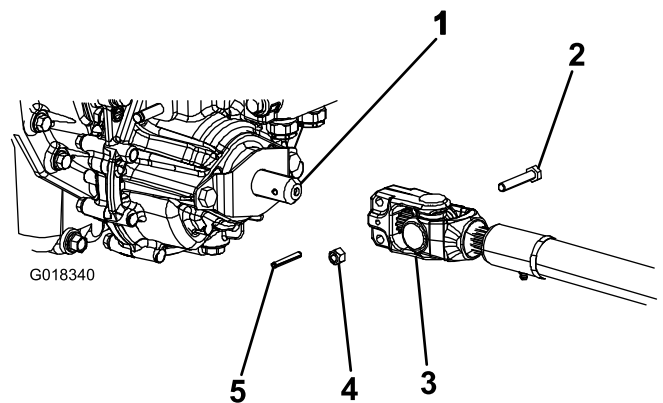

Figure 5
3. Position the PTO drive shaft under the front of the machine. Make sure that the drive shaft slip shaft yoke (Figure 5) is toward the transmission PTO shaft.